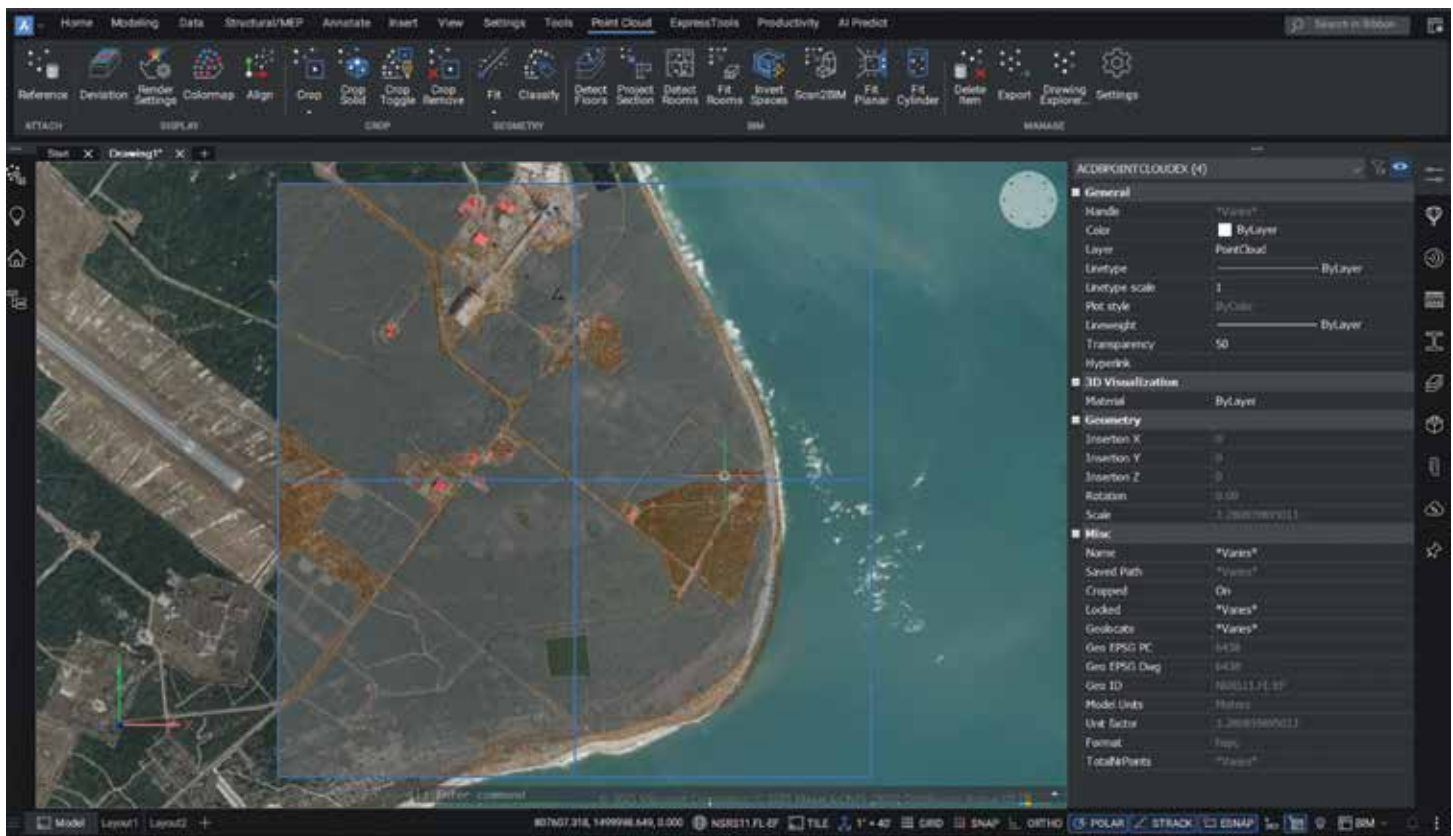

Figure 1
- Store geographic information in cache and use the “Geolocate” property. (See Fig. 1)